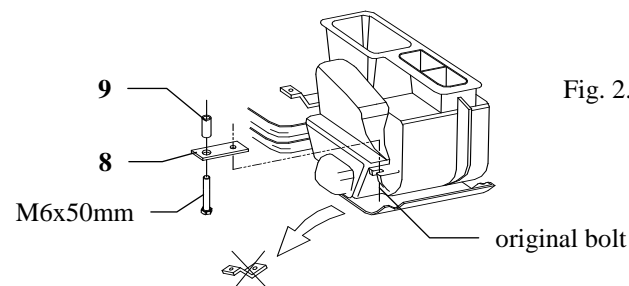

Fig. 2. Filter installation
2. In long version with air-conditioning disassemble a filter (fig. 2).
5. Between mounted angle bar put main bar of the towing hitch (pos. 1) and fix by bolts M12x40mm (pos. 12) and:
- **long body version** – put bend fish-plates (pos. 6 and 7) and fix all using bolts M12x110mm (pos. 11) and M10x45mm (pos. 15)
- **short body version**- through holes B fix main bar to the chassis members by bolts M12x110mm (one each side, bend fish-plates pos. 6 and 7 not used)
6. Fix tow ball (pos. 2) using bolts M16x50mm (pos. 10) from accessories.
7. In long version with air-conditioning reassemble a filter (see fig. 2).